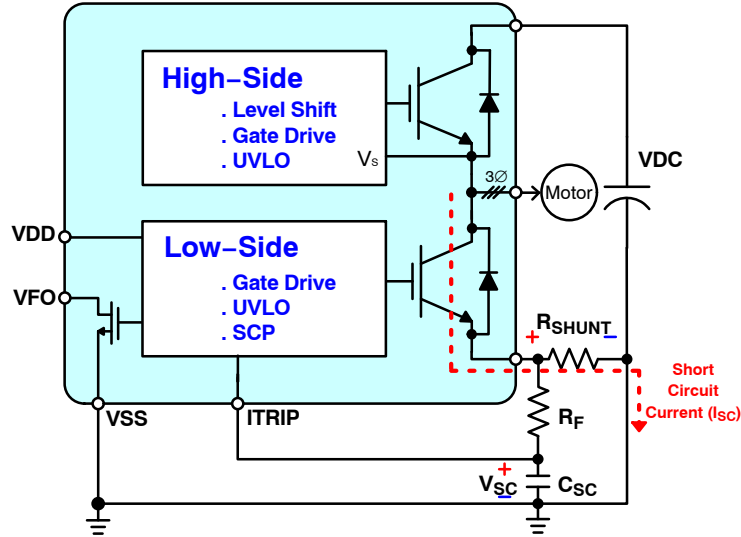
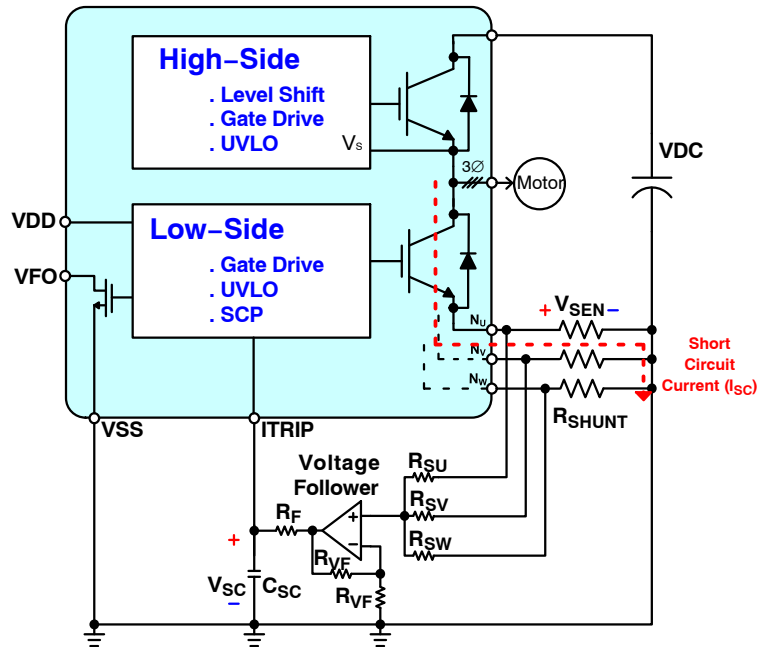

Figure 14. Recommended Circuitry of One Shunt Resistors Type for Over Current Protection
Figure 15. Recommended Circuitry of Three Shunt Resistors Type for Over Current Protection
The external RC time constant from the N-terminal shunt resistor to ITRIP must be lower than  $2 \mu\text{s}$  when overload condition is detected for a stable shutdown. Figure 14 and Figure 15 show an example circuit of the SC protection using one shunt resistor and three shunt resistors. The line current on the N side DC-link is detected and the protective
- Modulation Index (MI): 0.9
- Power Factor (PF): 0.8
- Derating Ration of Shunt Resistor at TSHUNT = 100°C: 70% (Refer to Figure 14.)